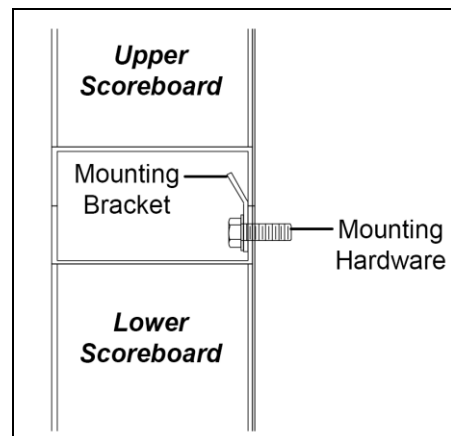

Figure 8: Upper Scoreboard Placement
5. Remove the eyebolts from the bottom row of scoreboards, and use them to lift the next row in place. The bottom rear flanges of upper rows will not be mounted to the wall; instead, they rest inside the mounting brackets of the scoreboards in the row below. Refer to **Figure 8**.